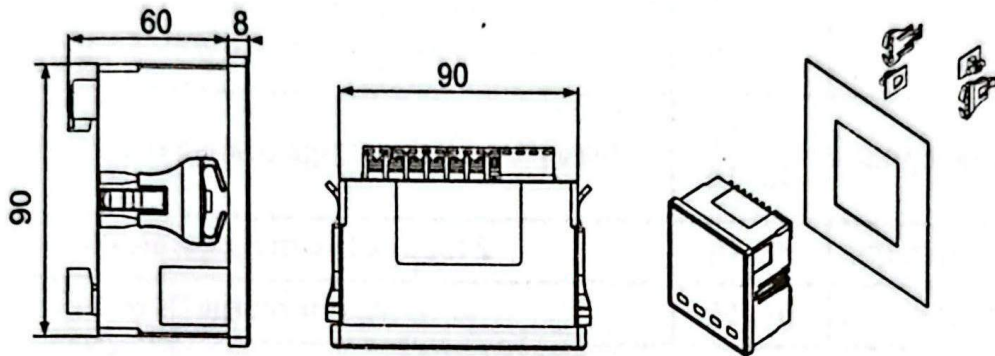

Fig.1
4.1 Panel Size(mm): 96×96 Hole Size(mm): 91×91 Depth(mm): 60 (See Fig.1)